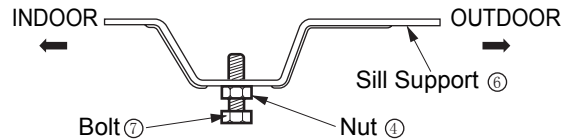

Fig. 3
3. Cut the window sash seal to the proper length. Peel off the backing and attach the Foam-PE to the underside of the window sash and bottom of window frame (Fig.3)
3. Loosely assemble the Sill Support[®] using the parts . (Fig. 3)